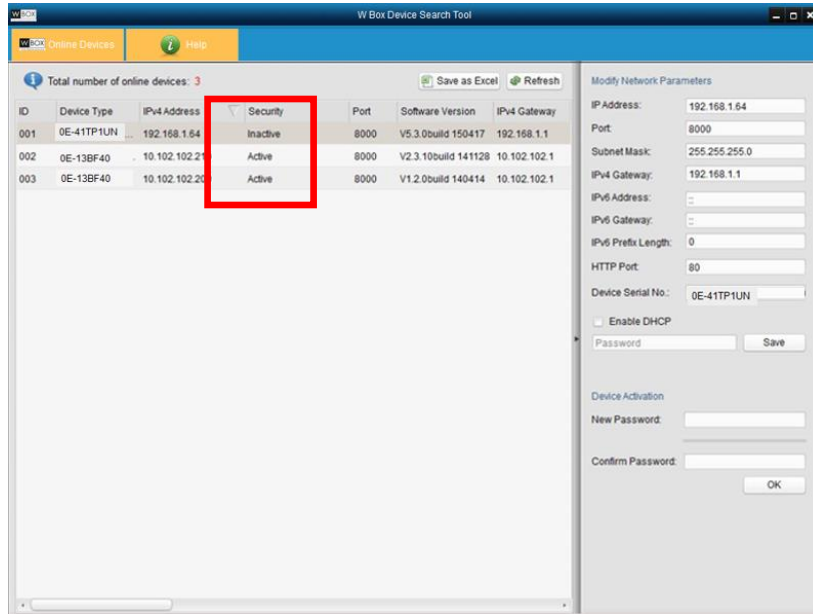

Figure 1 Security Field
- > A new field named “Security” will display whether the camera/DVR is active or not (Figure 1).